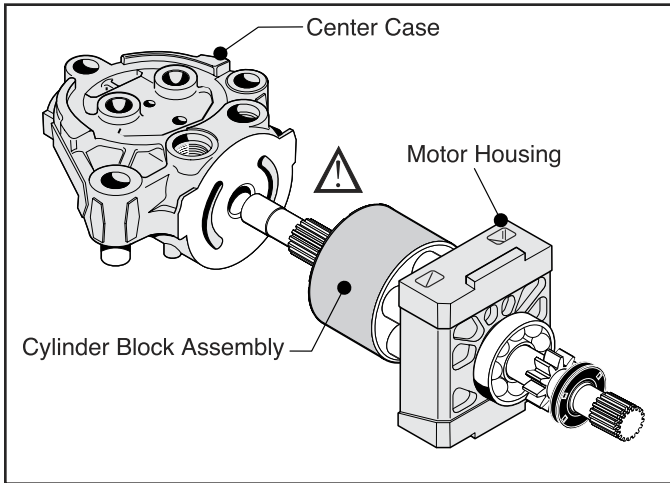

Fig. 23, Center Case and Motor Shaft Assembly
3. While still maintaining pressure on the Cylinder Block Assembly and the Motor Housing, carefully separate the Center Case from the Motor Shaft Assembly. (Fig. 23)